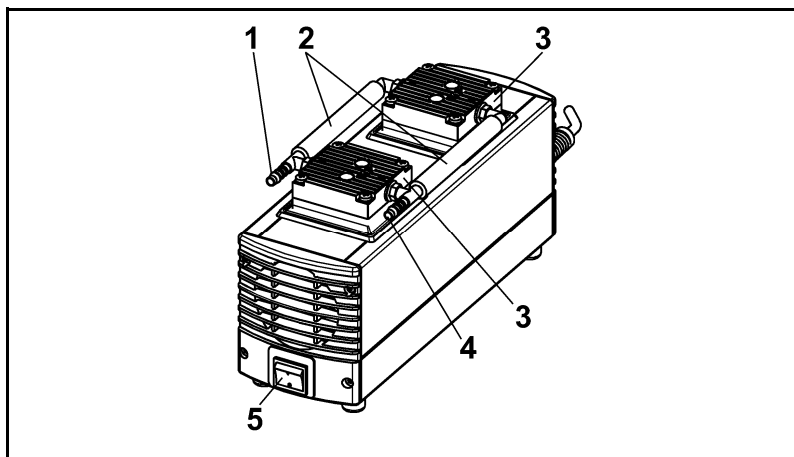

Fig. 2
- ➔ Switch on pump with mains switch (see fig. 2 to 6, depending on pump type)
- ➔ Switch off pump with mains switch (see fig. 2 to 6, depending on pump type).